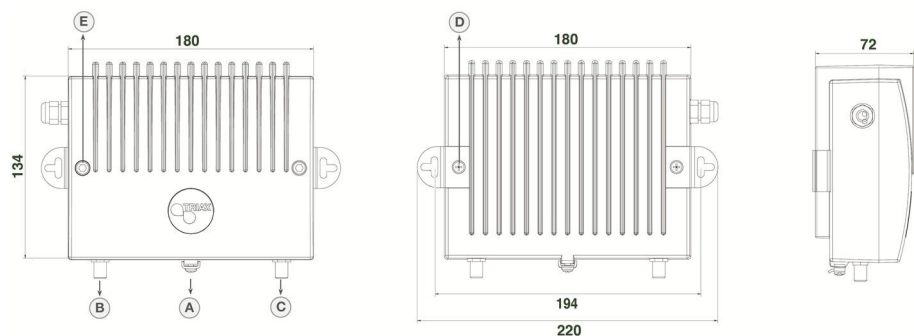

Fig. 1 Mounting
- ☞ Fasten the unit to the wall as per specified measurements (194mm between holes), see Fig. 1)
☞ Remove the top cover of the Amplifier by removing the 2 screws E (see Fig. 1)